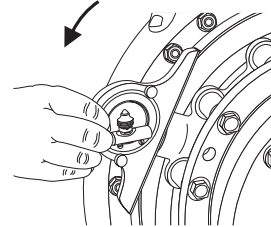
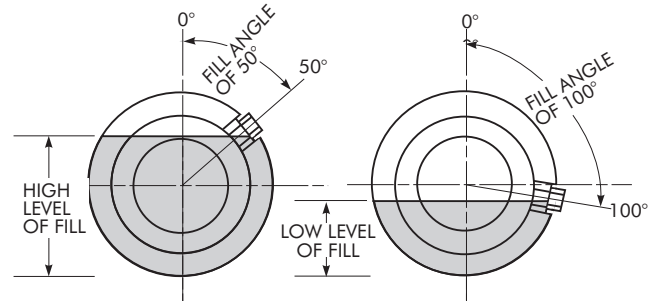

Figure 9
Figure 10
- C. Slowly rotate fluid coupling until the required fill angle is achieved, Figure 9. Fluid must appear at the lip of the hole. Add or drain fluid until level is correct. Figure 10 shows fill angle example.